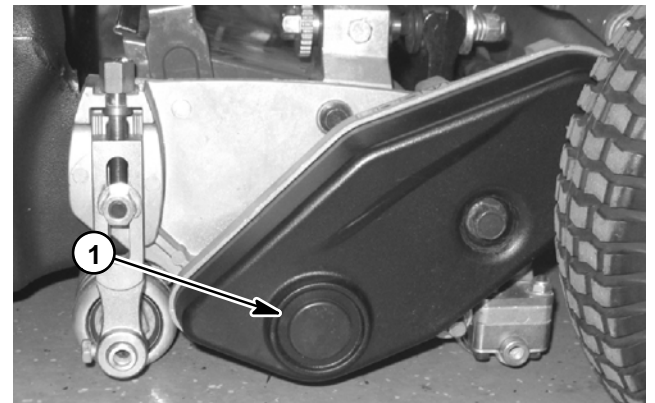

Figure 14
4. Remove plug from the reel drive cover on the left side of the reel assembly (Fig. 14).
8. Install reel drive cover plug when backlapping operation is completed (Fig. 14).